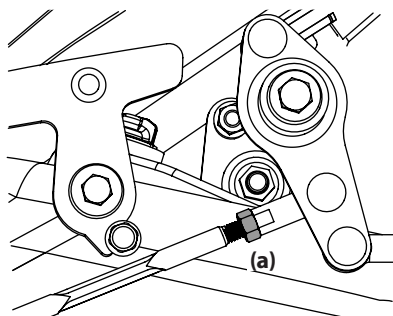

Figure 28
- Loosen the jam nut (a) and zero out the transmission. See Figure 28. Perform on both sides of the mower.